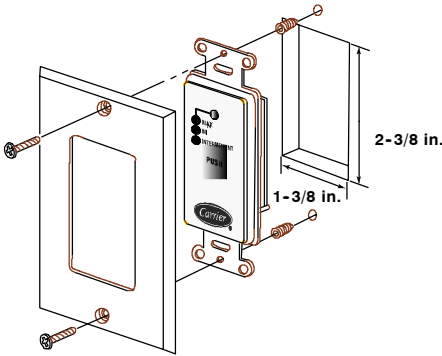

Fig. 1 - Wall Control Installation
Step 1—Cut a 2 3/8 in. high by 1 3/8 in. wide hole in the wall. See Fig. 1.